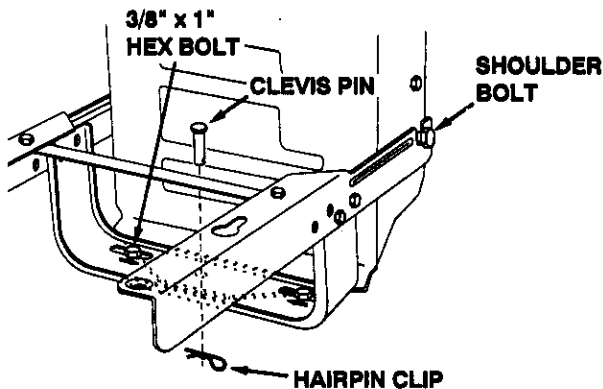

FIGURE 6
- Place the loosely assembled frame onto the rear of the tractor, hooking the notched ends of the mounting brackets under the shoulder bolts. Attach the hitch bracket to the tractor hitch using the clevis pin and a 1/8" hairpin clip. See figure 6.
- Slide the 3/8" x 1" hex bolts along the hitch bracket slots until they are bumped up against the back edge of the tractor hitch. **Tighten**. See figure 6.